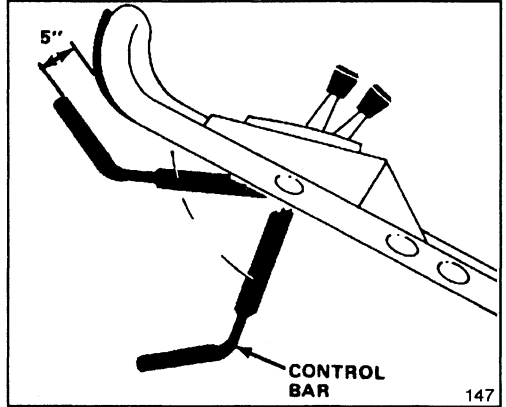

Figure 11
2. Push the control bar down to the lowest position (Fig. 11). This "latches" the mechanism prior to engaging the blade.
6. Push the control bar down to its lowest position, latching the mechanism (Fig. 11).
(about 5" below the handle) (Fig. 11). This indicates that the mower blade is engaged and has begun to rotate.